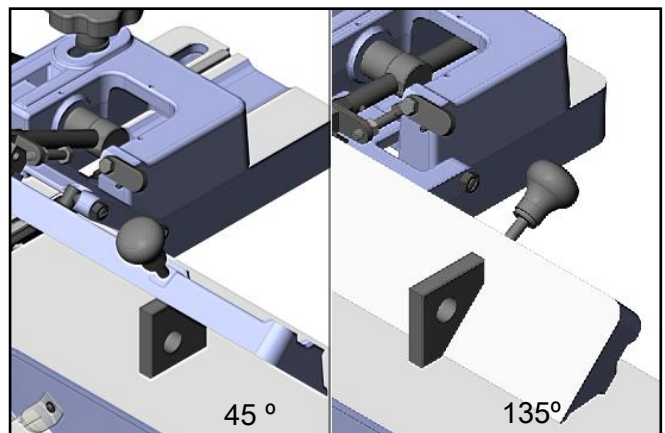

Fig. 12
**Note:** The 45° fence backward stop is controlled by the stop bolt (A) and 135° fence backward stop is controlled by the stop bolt (B).
1. Loosen the lock knob (D). Move the stop plate (E) out of the way and position the fence at the 45° or 135° angle. Make sure the fence sits against on the correct stop bolt.
2. Tighten the lock knob (D)
3. Place an angle measuring device on the table Fig. 12 and against the fence to confirm 45° & 135° setting (A Fig.27).
4. To adjust, loosen the lock nut (F) or (G) , turn the stop bolt (A) or (B) until a 45° or 135° angle is obtained.
5. Tighten the lock nut (F) or (G).